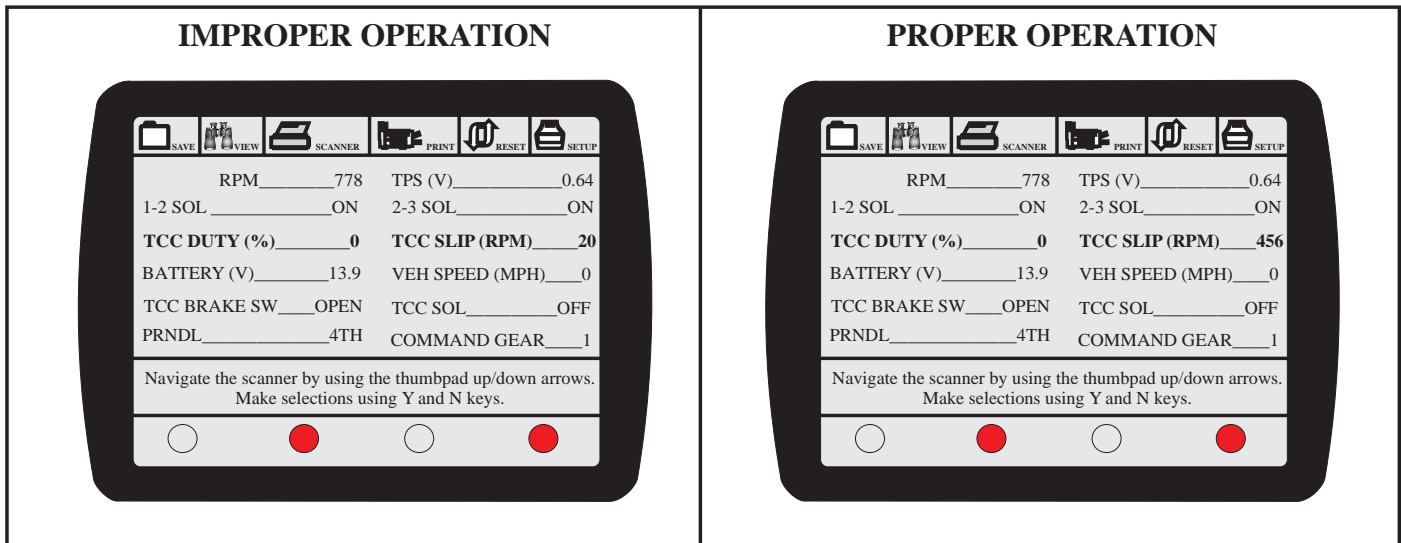

Figure 107
- The scan tool movie in Figure 107 is of a vehicle equipped with a 4L60E and indicates that TCC has been commanded “OFF” but TCC Slip is showing 20 RPM. TCC is hydraulically applied without a signal.